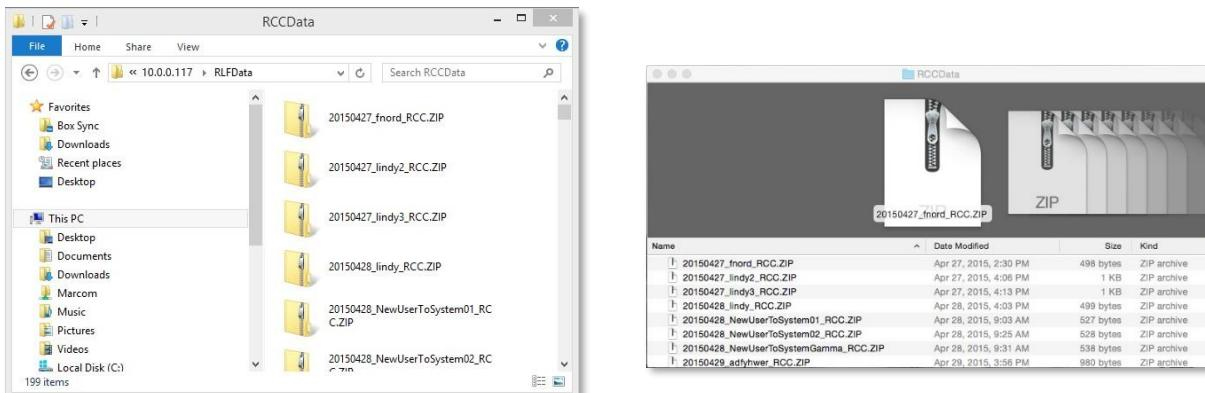

Figure 105: The contents of the ‘RCCData’ folder when using File Explorer (left) or Finder (right).
4. Open the **RCCData** folder. The RCCData folder will open and display the available files (**Figure 105**).